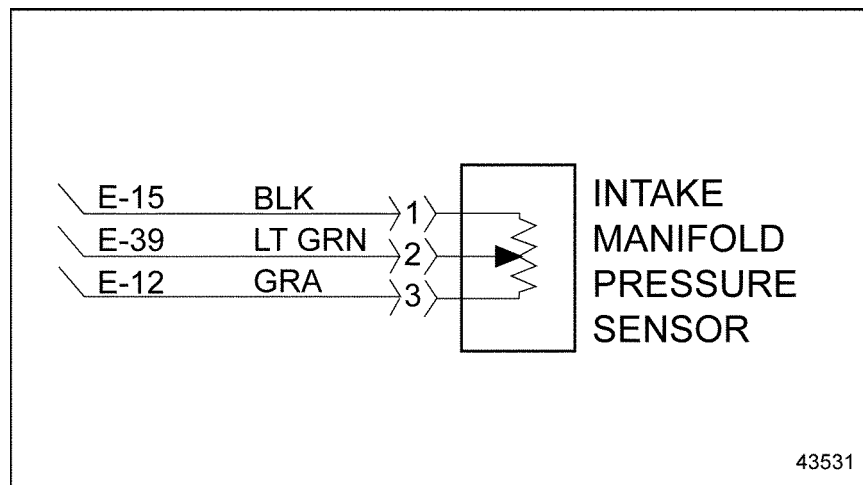

Figure 36-2 Turbo Boost/Intake Manifold Pressure Sensor
1. Turn vehicle ignition OFF and disconnect the TBS/IMP Sensor connector. See Figure 36-2.
2. Install a jumper wire between pin 1 and pin 2 of the TBS/IMP Sensor harness connector. See Figure 36-2.